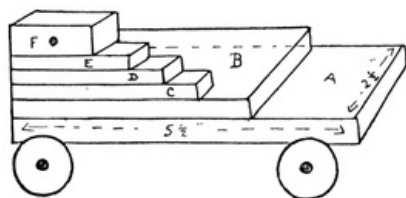

FIG. 338
**A Ship Cannon.** A piece of wood (about  $\frac{1}{4}$  inch thick, the side of a wooden chocolate-box or any other light box will do) is first sawn out  $5\frac{1}{2}$  inches by 2 inches (A in Fig. 338). Another piece of wood, B,  $4\frac{1}{2}$  inches by 2 inches, is cut and glued on the first piece. Three pieces of stripwood  $\frac{1}{4}$  inch by  $\frac{1}{2}$  inch, C, D, E, are cut to lengths  $3\frac{1}{2}$  inches,  $2\frac{3}{4}$  inches, 2 inches respectively. These are glued on one side as in the figure, and similar strips are cut and glued to the other side. Two pieces of stripwood, F,  $\frac{1}{2}$ "  $\times$   $\frac{1}{2}$ "  $\times$   $1\frac{1}{2}$ ", have holes drilled half way through them, to receive the pivots of the gun, but must not be